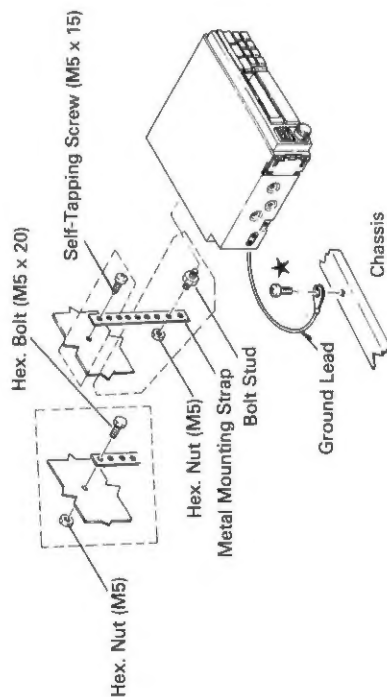

Fig. 2
2. Slide the mounting sleeve into the dashboard. (Fig. 2)